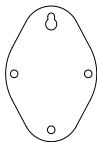

Figure 2-4 Mounting Template
- Drill the screw holes on the wall according to the drill template. As shown in Figure 2-4.